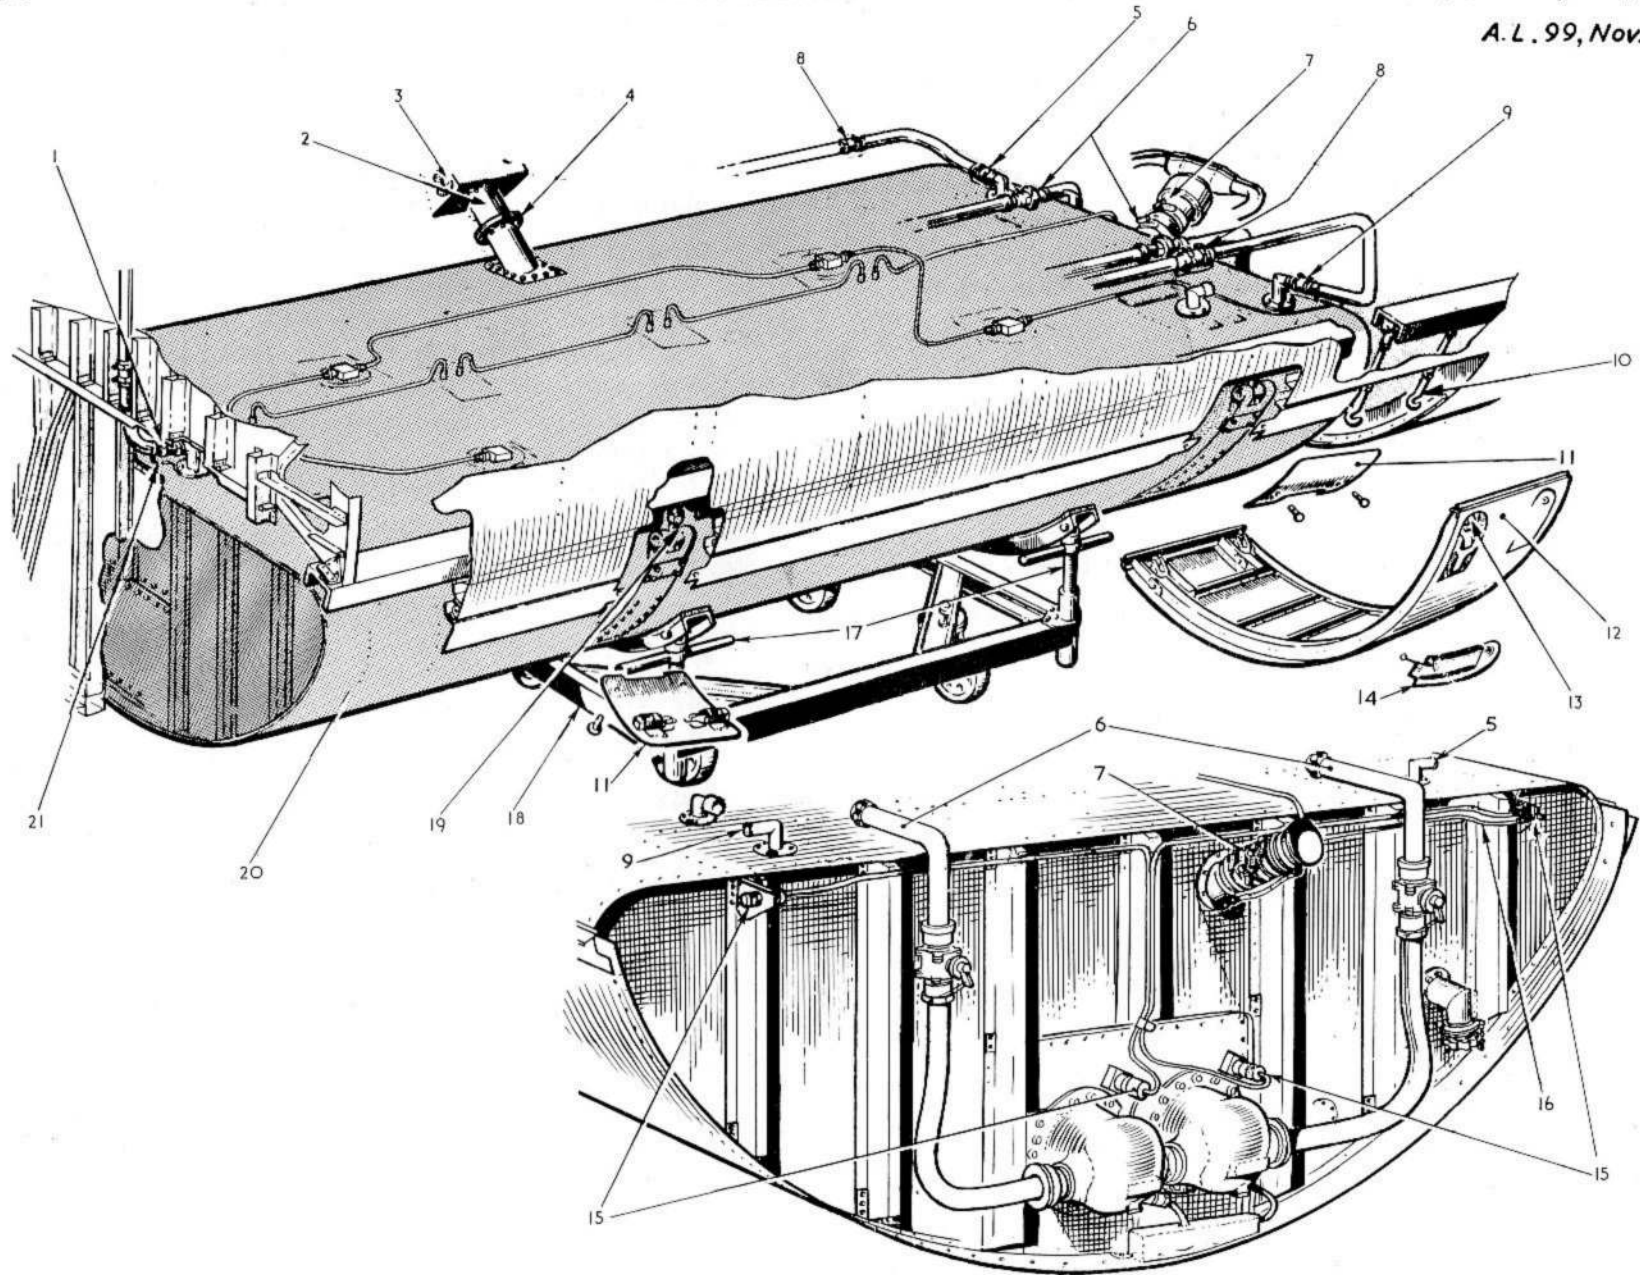

Fig.15. No. 6 tank removal
65. To remove No. 6 tank refer to fig. 15 and proceed as follows:-